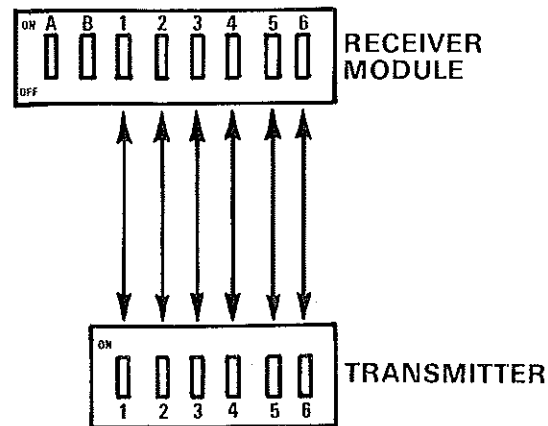

Fig 12
4. After making sure that **both** the transmitter and receiver code switches are set to the same combination, see Fig. 12, reinstall the back cover plate to the receiver module. Make certain it is tightly fastened.